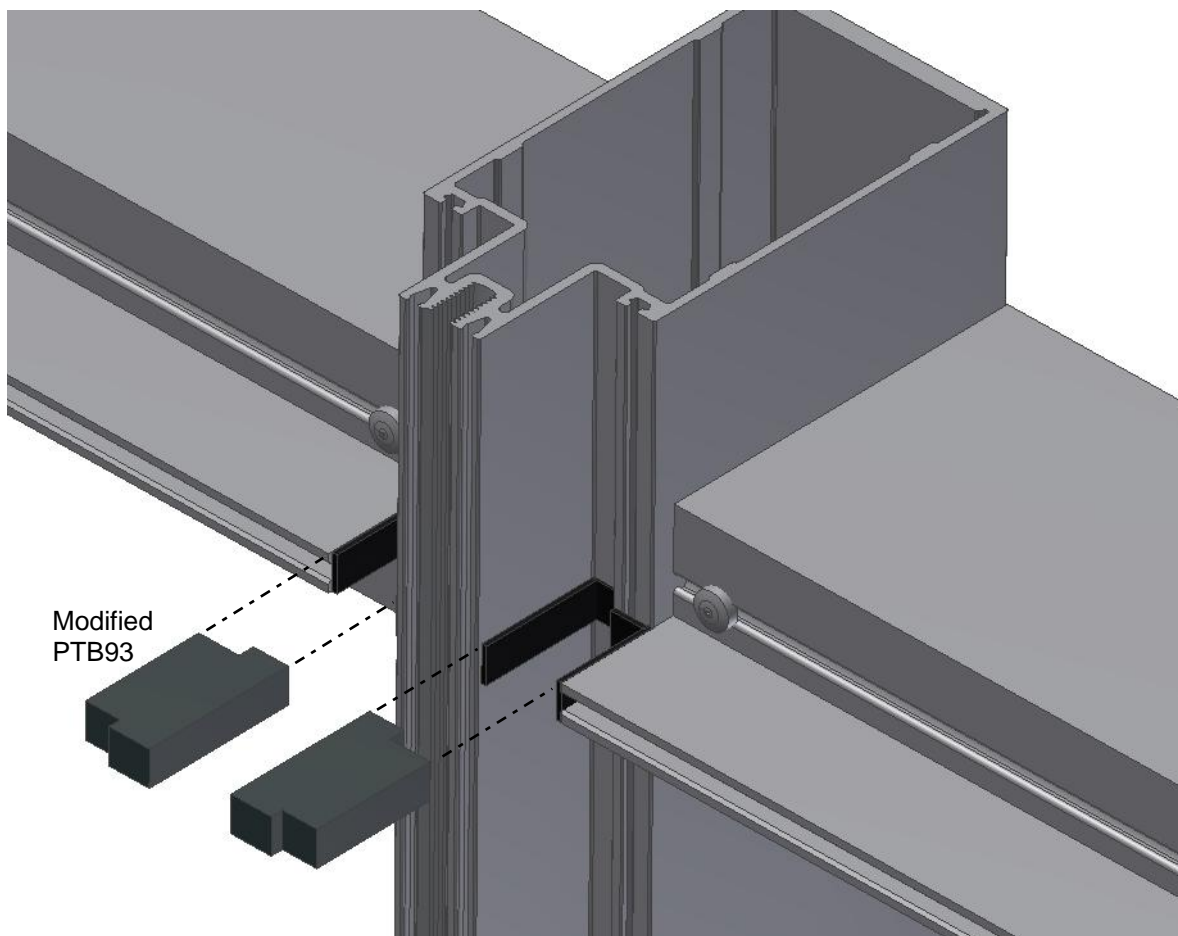

Figure 6: Install water dams (PTB93) where a captured vertical meets an SSG horizontal.
- Place water dams into the void between the horizontal rails as shown in Figure 6.